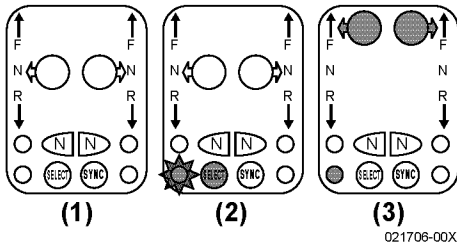

Figure 16
1. **Figure 16, 1** shows a typical inactive station.
2. Press the SELECT button (**Figure 16, (2)**). The button lights (grayed in (**Figure 16, (2)**)) and the station select light flash (star around light in (**Figure 16, (2)**)).
3. Move the handle(s) to forward or reverse throttle to match the handle location of the active station (**Figure 16, (3)**). The corresponding handle button lights (grayed in (**Figure 16, (3)**)) and the station select light glow steadily (grayed in (**Figure 16, (3)**)).